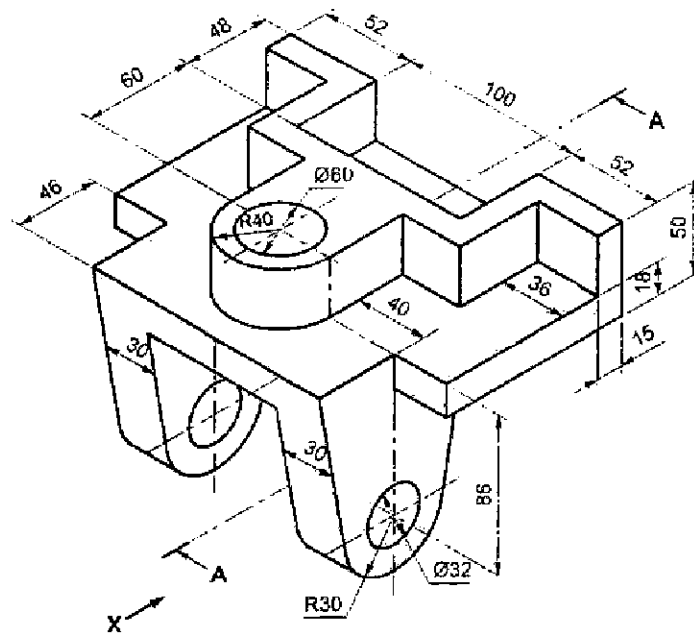

Figure 2
4. Figure 2 shows a pictorial view of a machine component. Draw the following views using first angle method of projection :